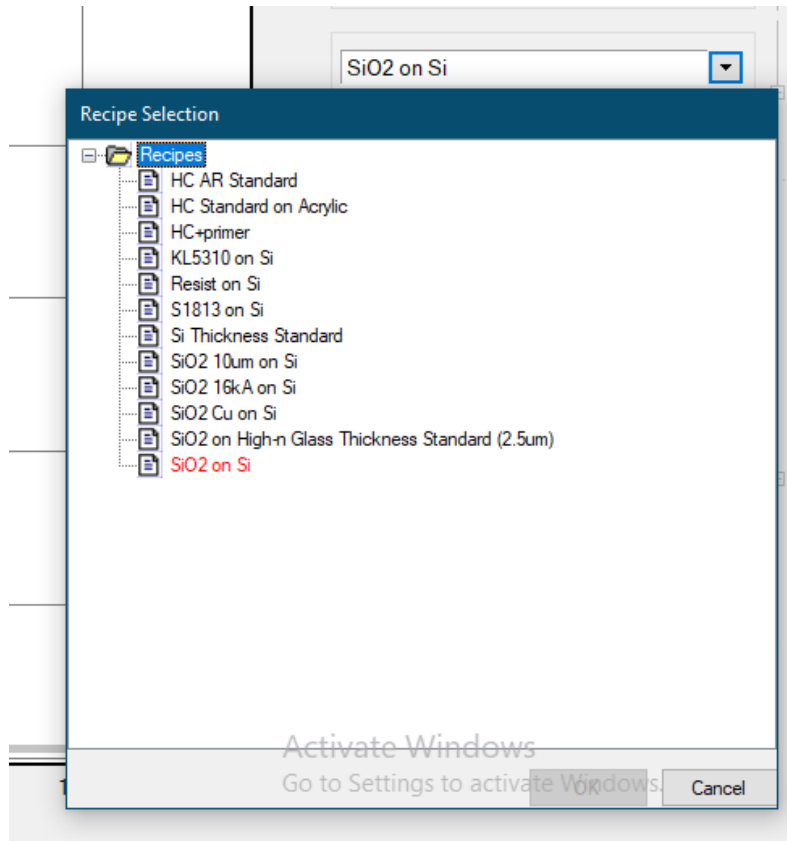

Figure 12. Recipe Selection Drop-Down Menu of FILMeasure Software
14. From the drop-down menu under the “Measure” > “Recipe Selection” tab, select the recipe “SiO₂ on Si” as shown in Figure 12.